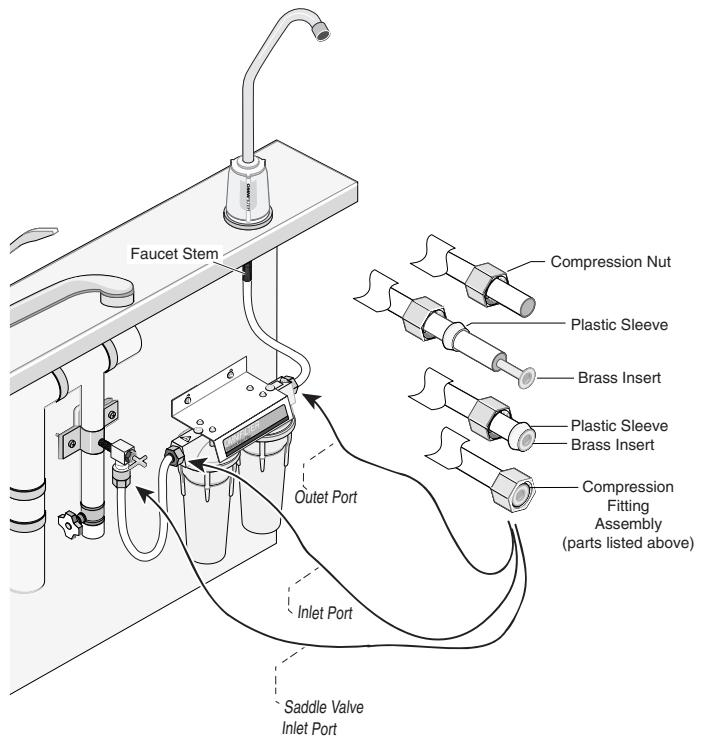

Figure 9
Finish Connecting the Tubing; See Figure 9.
d. Screw the tubing assembly onto each of the ports as illustrated in Figure 9.